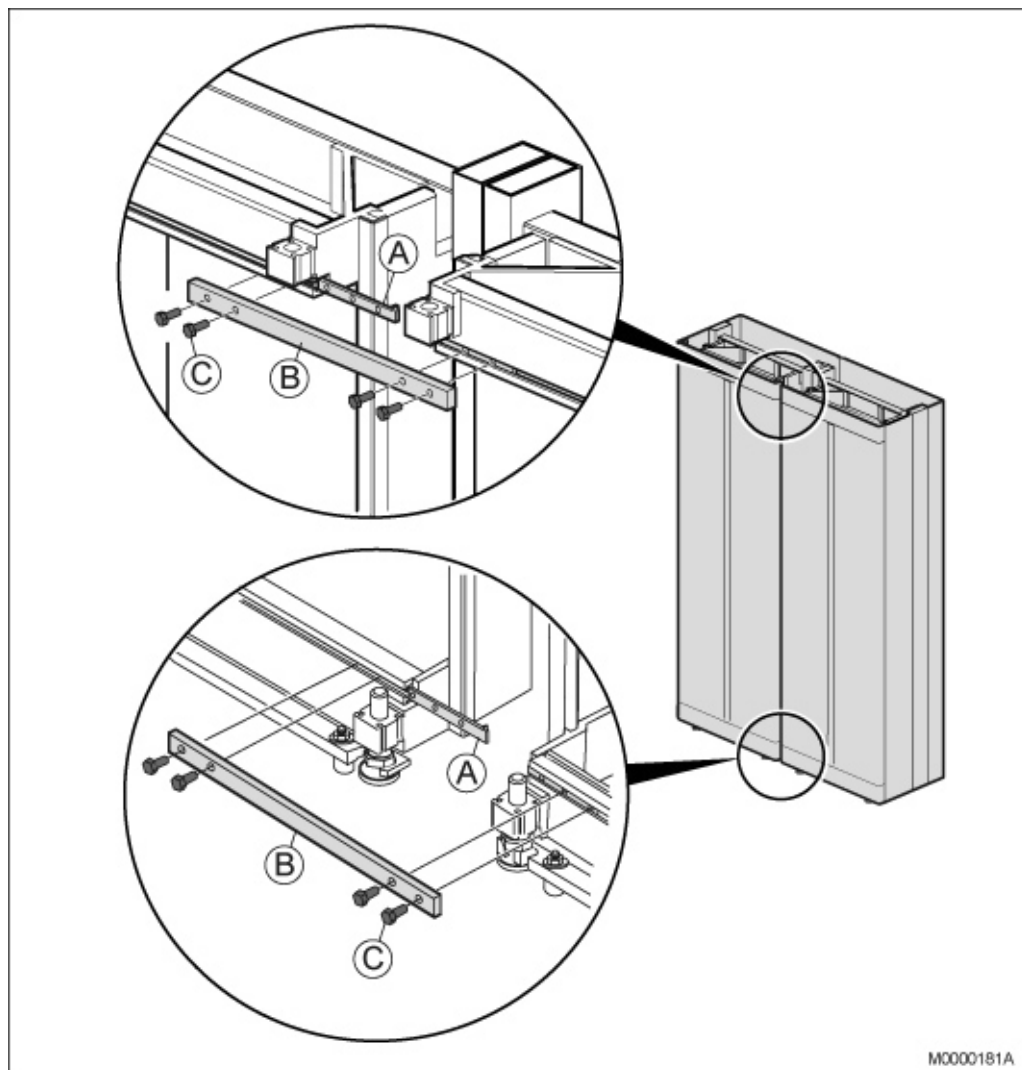

Figure 5: Mounting the Earth Bar
1. Install the earthing bars (B) with screws (C) and, a washer between the earth bar and the cabinet, see Figure 5:Mounting the Earth Bar on page 10. (Bar nut (A) is not used in some cabinet)